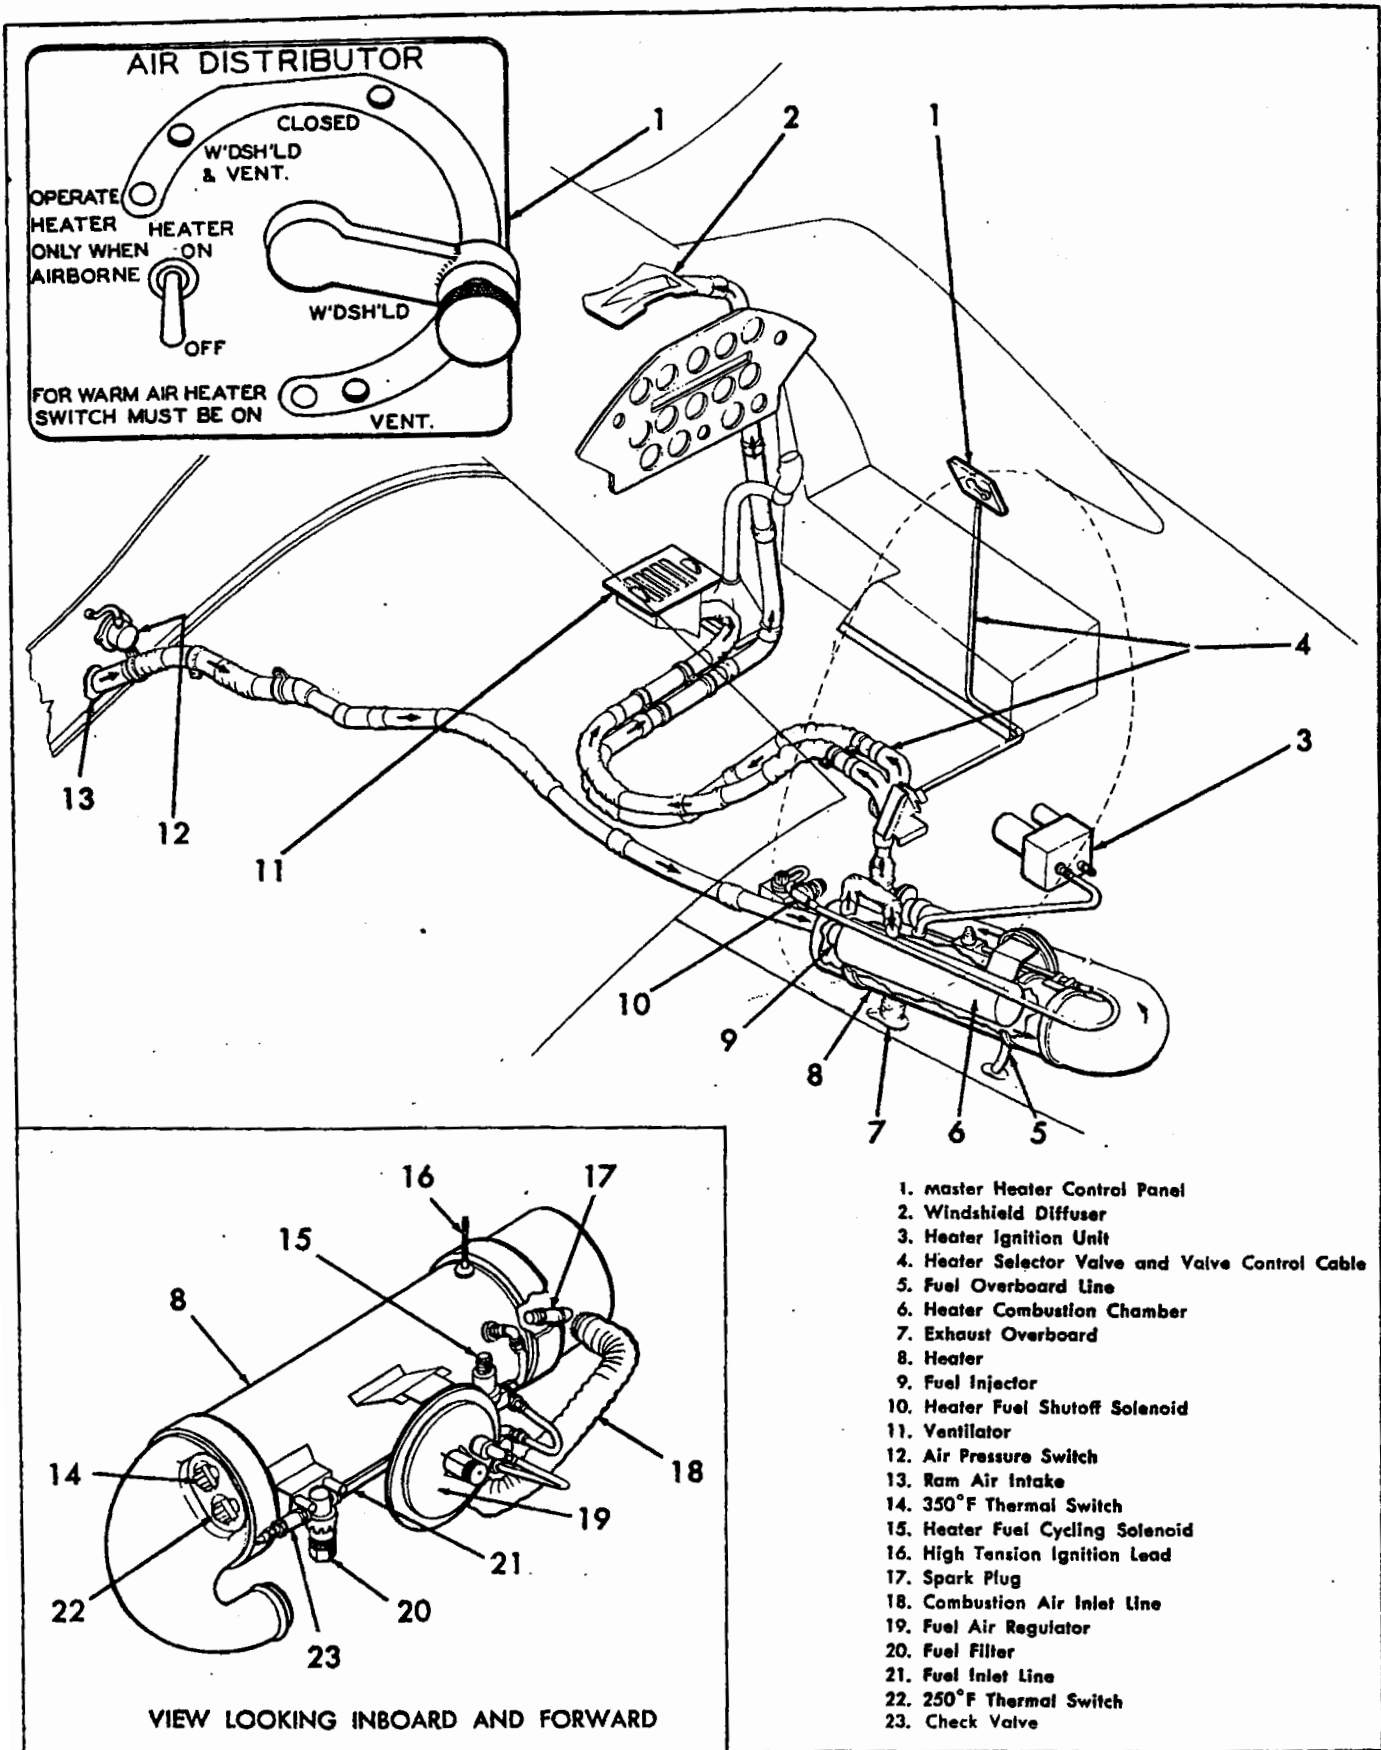

Figure 4-132. Heating and Ventilating System.
4-1593. DESCRIPTION. (See figure 4-132.) The heating and ventilating system consists of the following: Janitrol heater with an hourly output of 50,000 Btu, a solenoid at the fuel selector valve which stops flow of fuel to heater when heater output exceeds 350°F, a pressure switch which completes the electrical circuit permitting heater to function at 120 knots IAS and above, a pilot-controlled master heater switch and a heater selector (distributor) valve which directs flow of heated air through multiflex tubing to windshield diffuser and ventilator, and an ignition unit located on the underside of the radio compartment shelf, which supplies high voltage to the spark plug on the heater.
4-1594. FUNCTION. (See figure 4-132.) With the master heater switch (located on the panel (1) above right hand control shelf) turned "ON" and at airspeeds over 120 knots, the air pressure switch (12) closes, energizing the cockpit heater relay in the main junction box. This, in turn, energizes the heater fuel shutoff solenoid (10) located on the fuel selector valve. The heater fuel cycling solenoid (15) on the heater is also energized, allowing fuel to flow to the heater combustion chamber (6). The heater ignition box (3) produces the necessary high voltage for the heater spark plug (17). Refer to paragraph 5-131 for further electrical information on the heater. Combustion air taken from the main ram air intake line, and metered fuel from the fuel regulator, flow to the combustion chamber of the heater.
4-1596. DESCRIPTION. (See figure 4-132.) This heater is cylindrical in form, seven inches in diameter and approximately 18 inches long. The heater is manufactured by the Surface Combustion Corporation, their model number ABS-50D-P41D-B. Combustion takes
4-1601. DESCRIPTION. (See figure 4-132.) The air pressure switch is a diaphragm and microswitch enclosed in a case. It is designed to close the circuit at a predetermined pressure of six inches (plus or minus one inch) water by the action of air pressure on a diaphragm. This action closes the microswitch and the heater circuit is completed. When air pressure on the diaphragm is relieved, the switch opens and the circuit is broken. See paragraph 5-131 for electrical information. The switch is manufactured by the Aerotec Company of White Plains, N. Y., their part number No. P-501.
4-1606. DESCRIPTION. (See figure 4-132.) The fuel solenoid valve consists of a valve body, gasket, armature, guide pin, spring and coil. When an electrical current is transmitted to the valve, it energizes the coil, lifting the guide pin from the valve body, allowing fuel to pass on to the heater. When the circuit is broken (when the heater exceeds 350°F.) the valve pin returns by spring pressure to the valve seat, shunting off flow of fuel to heater. This solenoid is mounted to the fuel selector valve beneath the cockpit floor. The solenoids used on the heater and at the selector valve (station 177.5) are manufactured by Minneapolis Honeywell Company, their aircraft valve type G104A2CA3. This valve is listed by Surface Combustion Company as their part number 40A31.
4-1610. DESCRIPTION. (See figure 4-132.) The heater fuel cycling solenoid is identical with the solenoid described in paragraph 4-1605. It is connected to and is part of the heater assembly. The current to the solenoid flows through the 250°F thermal switch. When the heater reaches 250°F, the thermal switch opens the circuit, closing the solenoid, shutting off flow of fuel to the heater. When heater temperature drops to below 250°F the electrical circuit is closed again and the solenoid is energized, opening flow of fuel to heater.
4-1614. DESCRIPTION. (See figure 4-132.) This
4-1618. DESCRIPTION. (See figure 4-132.) The heater selector valve (4) is secured to a bracket by three bolts. The bracket is secured to the forward left hand side of bulkhead 186. The valve is "Y"-shaped and directs heated air from the heater to either ventilator or to the windshield or both. The valve is controlled by a Teleflex cable within a conduit which runs from the valve to the heater control panel (1) on the right hand side of the cockpit above the control shelf.
4-1625. DESCRIPTION. (See figure 4-132.) The diffuser is located at the base of the windshield bullet-proof glass. It is secured by bolts to top of cowl and is connected to the heater by multiflex tubing. Heated air from the heater exits at base of windshield and aids in defogging. The windshield diffuser is a fixed installation.
4-1627. DESCRIPTION. (See figure 4-132.) The ventilator is located on the floor of the cockpit forward of the control stick. It is secured to the floor by four bolts. There are two foot controls on the ventilator, one on the left hand side and one on the right. The one on the left controls the angle at which air enters cockpit. It also stops flow of air from entering cockpit. The right foot control restricts the amount of air entering cockpit. There is a small spring-loaded door on the right hand side of the ventilator below the floor of the cockpit which exhausts air when the left foot control is shut off.